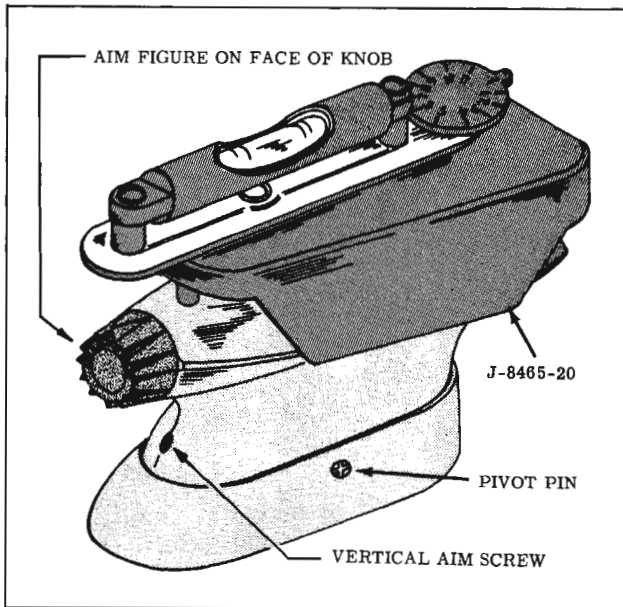

Fig. 13-34 Level Installation
4. Set the level J-8465-20 on top of phototube unit as shown in Fig. 13-34.